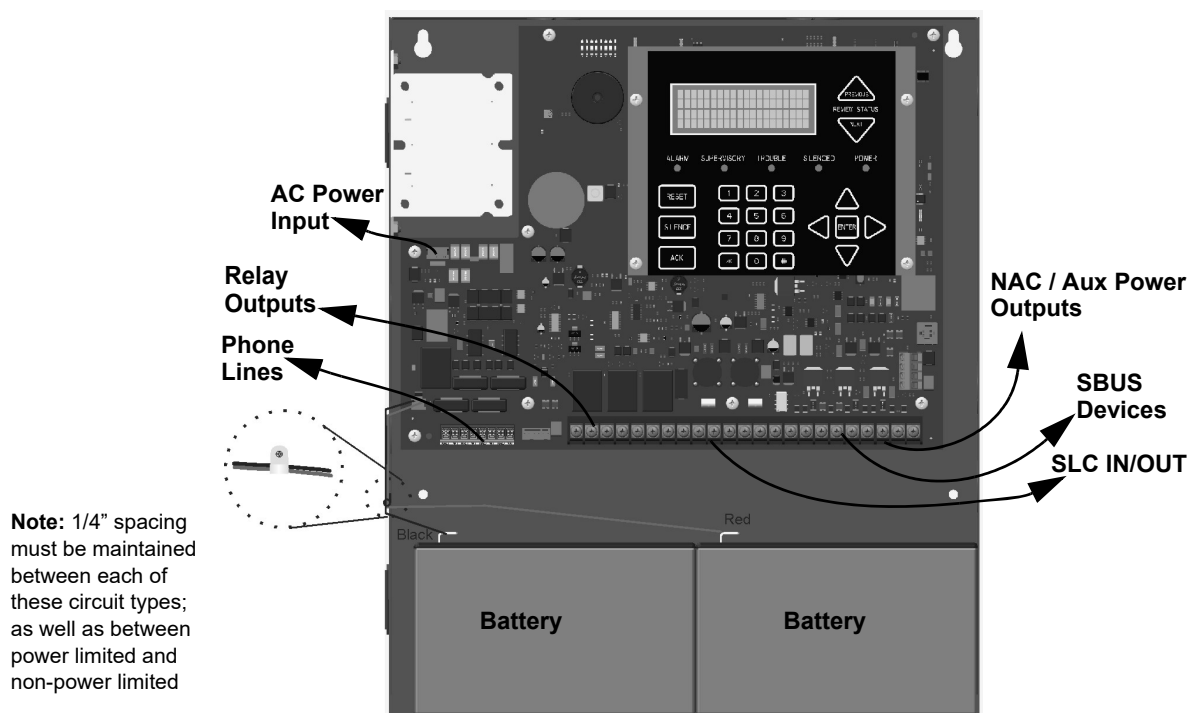

Figure 3.1 Wire Routing Example
- Route the wiring around the inside perimeter of the cabinet. It should not cross the circuit board, where it could induce noise into the sensitive microelectronics or pick up unwanted RF noise from the high speed circuits. See Figure 3.1 for an example.